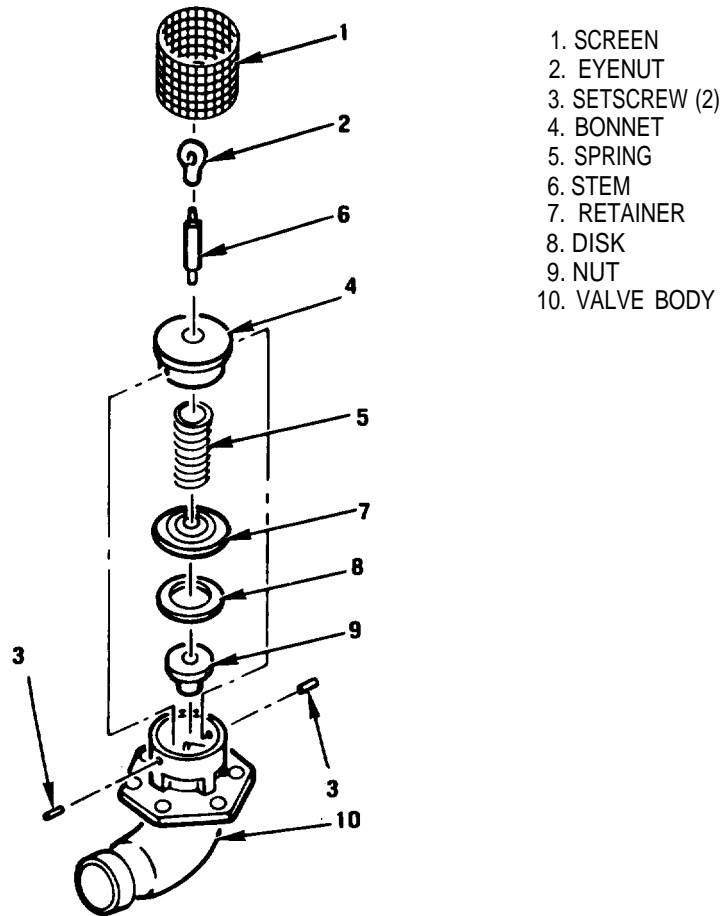

Figure 5-13. Dispensing Valve,
a. Disassembly. (figure 5-13)
(1) Remove screen (1) and eyenut (2). Loosen setscrews (3) to release bonnet (4) and remove bonnet.
(2) Remove spring (5), stem (6), retainer (7), disk (8) and nut (9).
(1) Clean parts with drycleaning solvent, (Item 1, App. E) and dry thoroughly.
(2) Inspect all parts for cracks, breaks, or other damage. Replace a defective part. Replace all gaskets and packing, as necessary.
c. Reassembly. (figure 5-13)
(1) Assemble nut (9) disk (8), retainer (7), spring (5) and bonnet (4) together by compressing spring and securing in valve body (10) with setscrews (3).
(2) Attach stem (6) and eyenut (2).
(3) Install screen (1) before installing valve on tank.